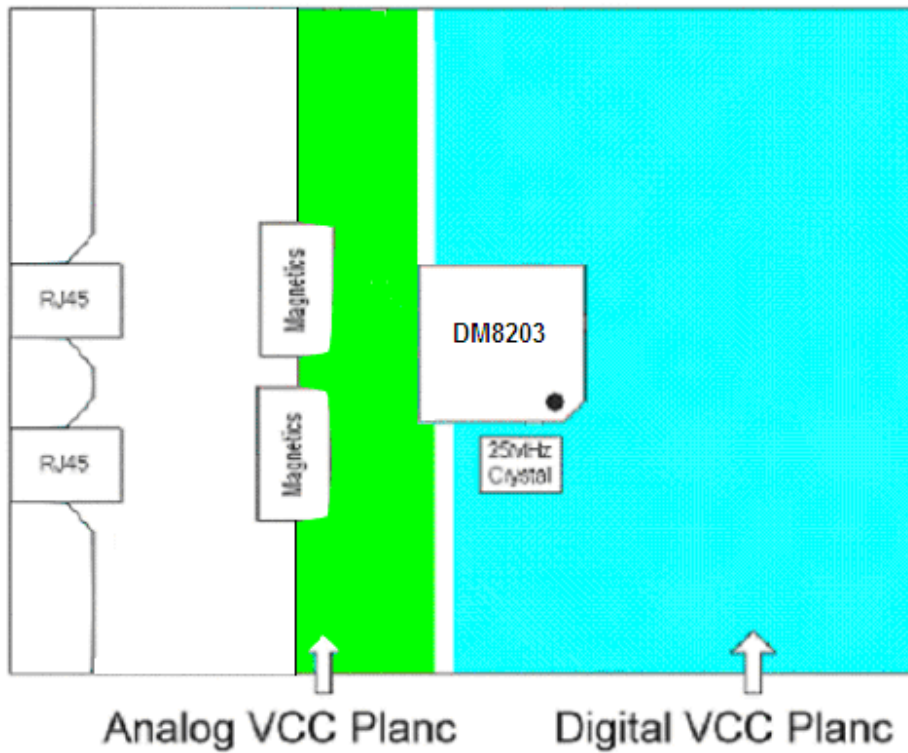

Fig. 5-1 Power planes partitioning for DM8203
- The power planes should be approximately illustrated in **Fig. 5-1**.